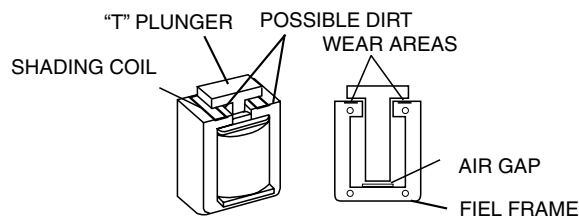

Figure 7 – Typical Pilot Solenoid
See Figure 7. Before removing "T" plunger, mark it and the frame so that they can be reassembled with the same orientation. Remove "T" plunger. Clean "T" plunger and frame. Before reassembling, inspect shading coil and air gap as explained below.
**Broken shading coil** - See Figure 7. Copper shading coils reduce the solenoid's tendency to buzz when operated on alternating current. If a coil is broken, the solenoid must be replaced.
**Wear that causes a loss of air gap** - There must be a small gap between the solenoid plunger and field frame when the solenoid is energized. See air gap, Figure 7. If significant wear is apparent under "T" plunger, the air gap can be lost and the solenoid must be replaced.